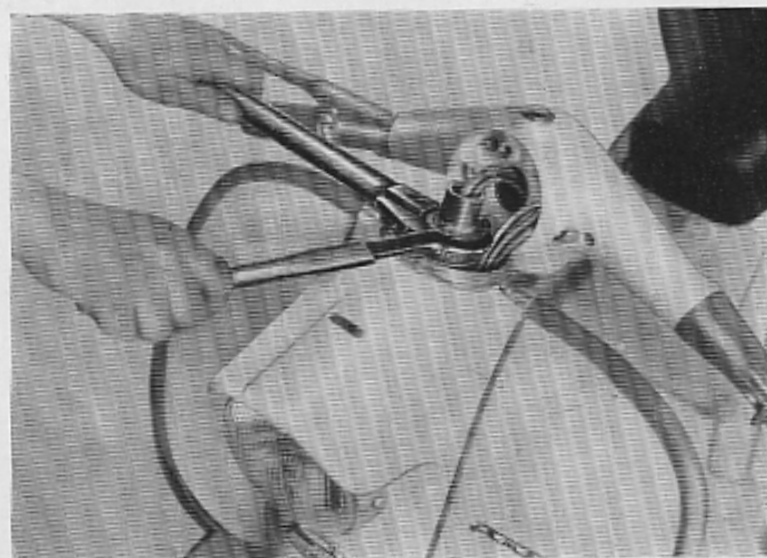

Fig. 33
- 49** After having removed the handlebar (Op. 50), unscrew the steering adjustment ring and the ball race ring using Tools No. 40490 and 40482, and slide out front fork complete. See Fig. 33.